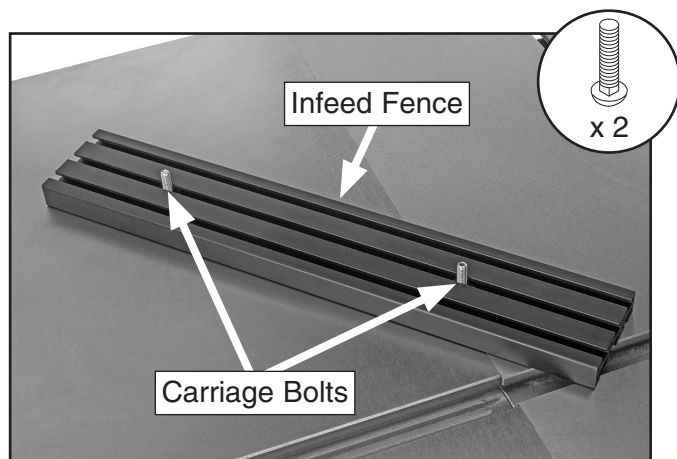

Figure 21. Carriage bolts installed in infeed fence.
13. Install (2) $\frac{1}{4}$ "-20 x $\frac{3}{4}$ " carriage bolts in the center slot of infeed fence (see **Figure 21**).